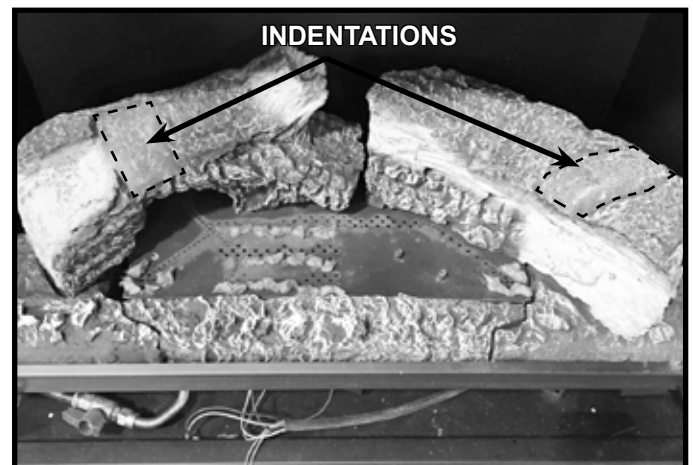
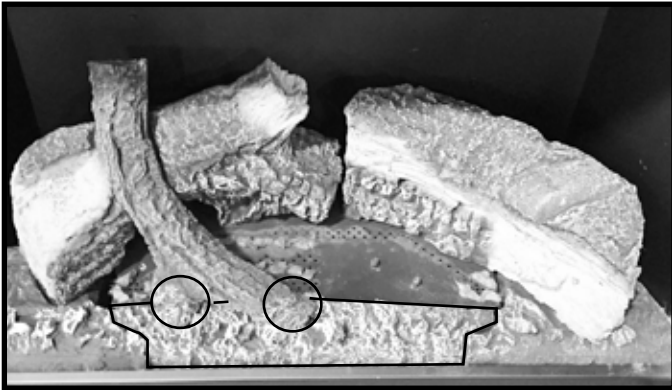
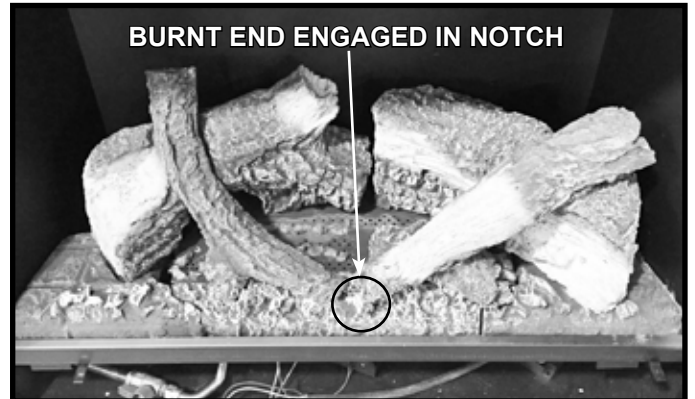

Figure 6. Glowing Embers® Installed
Figure 7. Install Top Left Log
Figure 9. Top Right Log Installed - Log Set Complete
- Top left and top right logs, which lay across the rear left and rear right logs, utilize the “indentations” in the rear left and rear right logs for proper placement. See Figure 6.
4. Remove top left log from packaging. Place the log into the indentation on the left rear log. The indentation is highlighted in Figure 6. The bottom two points of the log will rest on the center hearth component. See Figure 7.
6. Remove right top log from packaging. There is an indentation located in the right rear log which "cradles" the right top log. The indentation is highlighted in Figure 6. The burnt end of the log will engage a notch in the middle hearth component. See Figure 9.